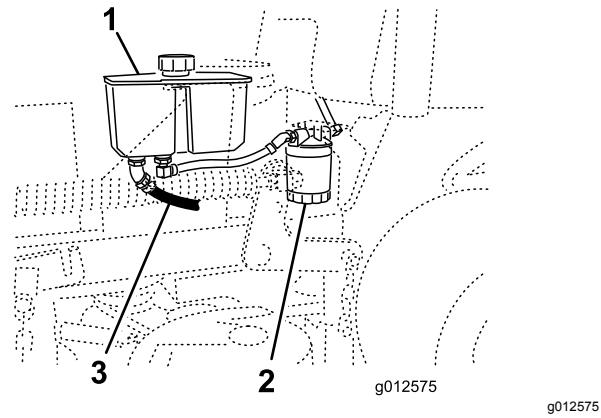

Figure 71
4. Locate the front hydraulic hose under the hydraulic tank and place a drain pan under the tank (Figure 71).